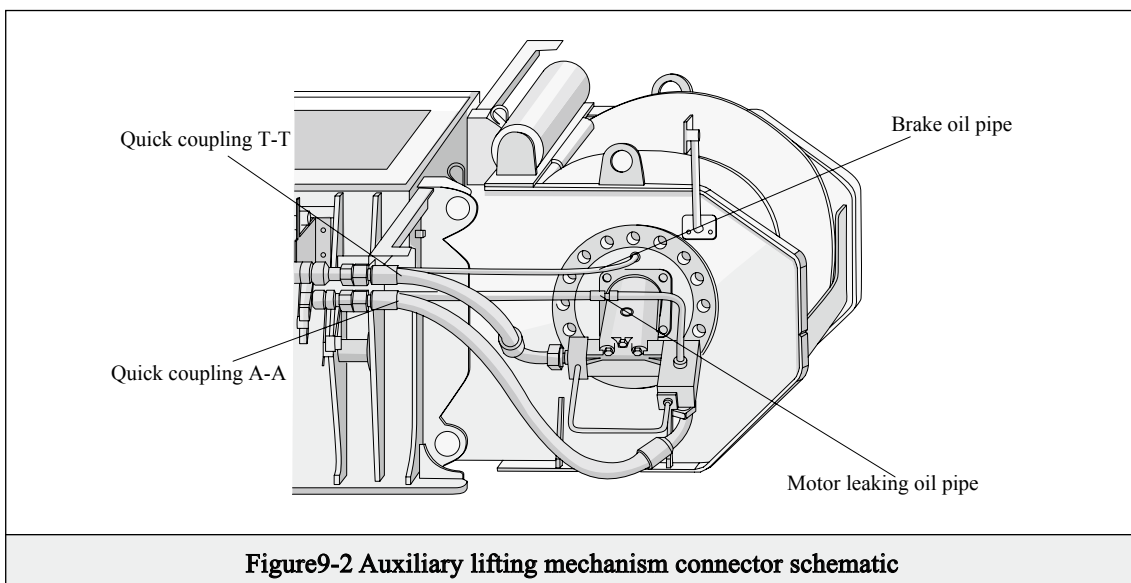

Figure9-2 Auxiliary lifting mechanism connector schematic
3. Connect the auxiliary hoisting motor B and auxiliary lifting winch with the main oil line by quick coupling. As shown in Figure 9-2, the male connector A connects with female connector A, male connector T connects with female T, the male connector and the female connector of the brake oil pipe are connected together, the male connector and the female connector of the motor leaking oil pipe are connected together. The connections should be right, without oil leakages.
1. Disconnect the quick coupling between the auxiliary hoisting mechanism and main oil line (see Figure 9-2), and cover the protective cap.